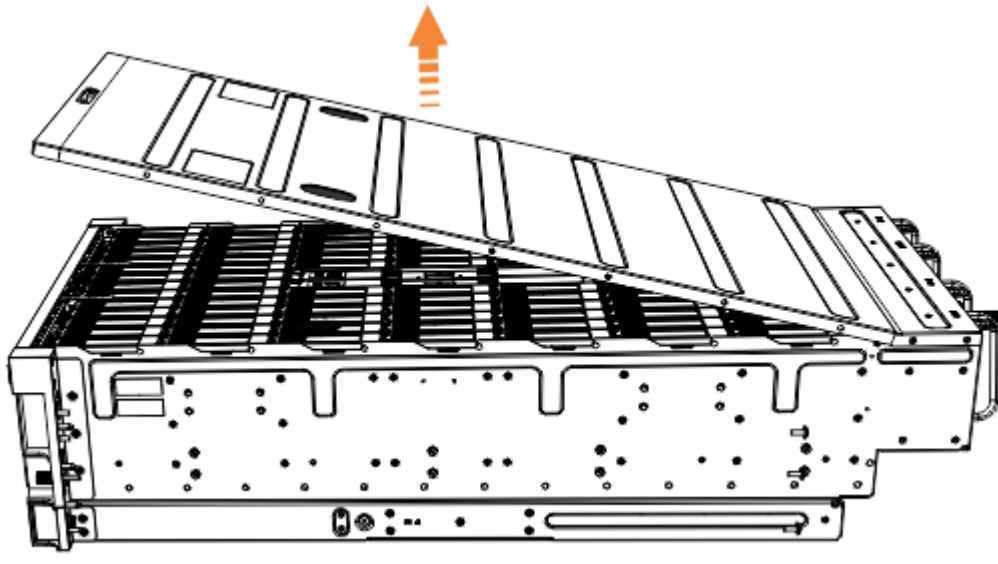

Figure 42. Removing the 2076-92F cover
3. Carefully lift the cover up, as shown in Figure 42 on page 46.